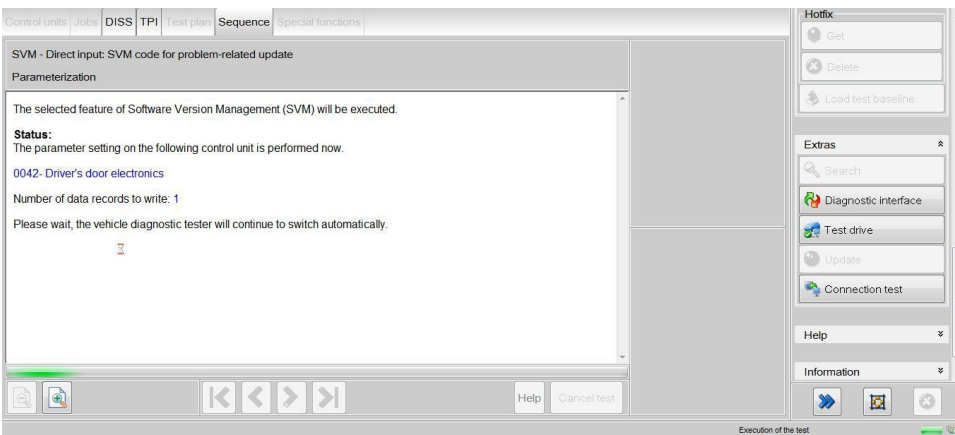

Figure 3
- 3) The Required control units will be automatically updated in the order shown in Figures 3 through to 6